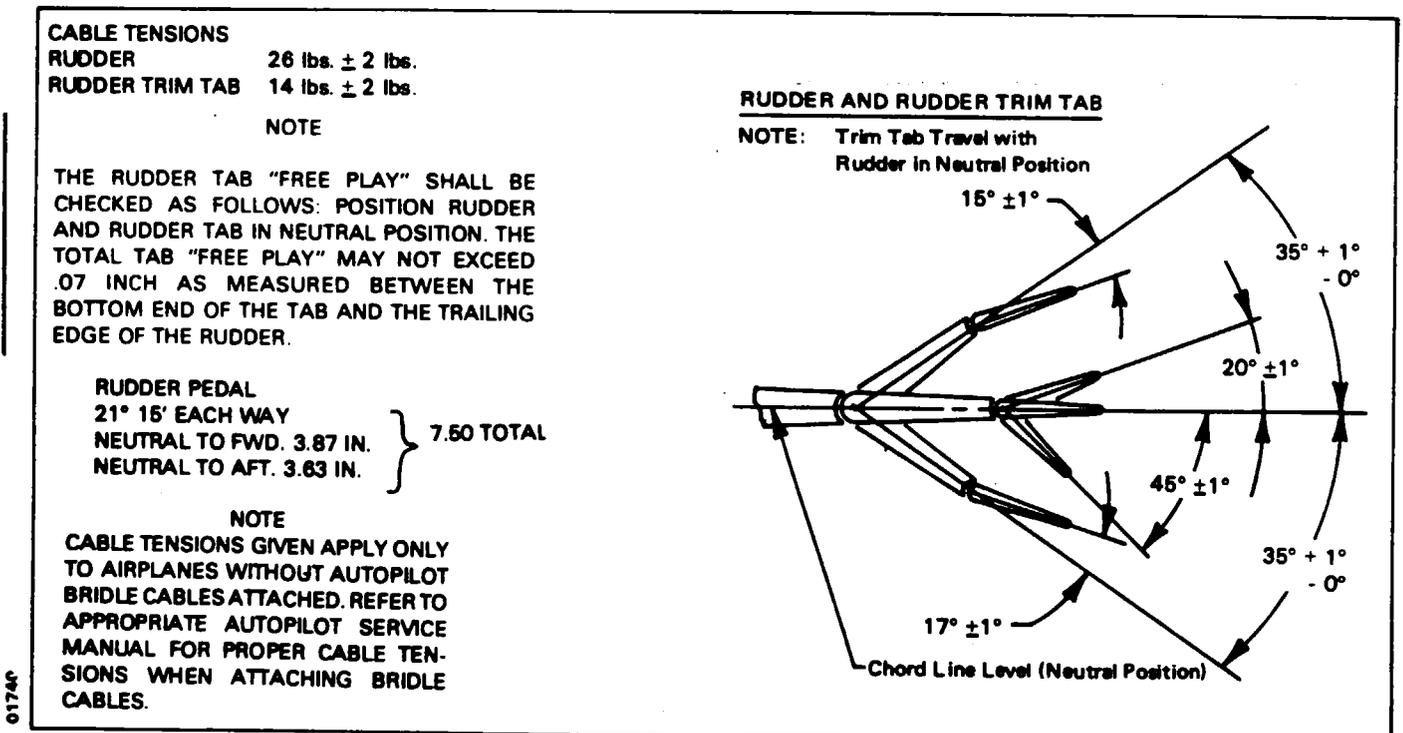

Figure 27-14. Rudder and Trim Tab Control Travels and Cable Tensions
5. Set cable tension per Figure 27-14 and check rigging and adjustment.
3. Set cable tension per Figure 27-14 and check rigging and adjustment.
12. Connect rudder cables to the pedal assembly and set cable tension per Figure 27-14 and check rigging and adjustment per instructions given in this chapter.
- B. Adjust the turnbuckles at fuselage station 100.00 to obtain proper cable tension, per Figure 27-14, and to align the rudder at neutral position. Neutral position of the rudder may be established by aligning vertically the forward overhang at the upper portion of the rudder with the vertical fin or with the use of the fabricated rudder rigging jig. (A rigging jig and pointer may be fabricated from specifications given in Chapter 95.)
- G. Set rudder with stops to the degree of travel as given in Figure 27-14 and lock stops.